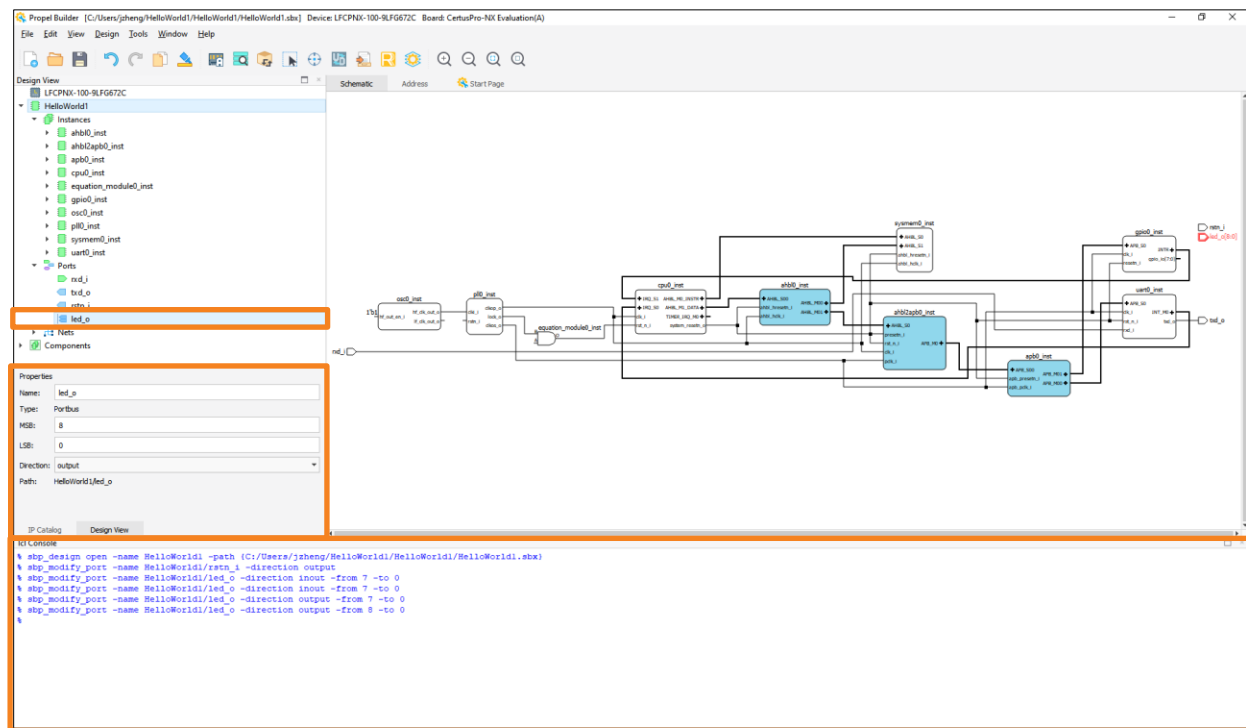

Figure 2.110. PortBus Direction
- e. PortBus MSB, LSB and direction can be modified. Click on PortBus and then use the drop-down menu to choose the desired direction (Figure 2.110).